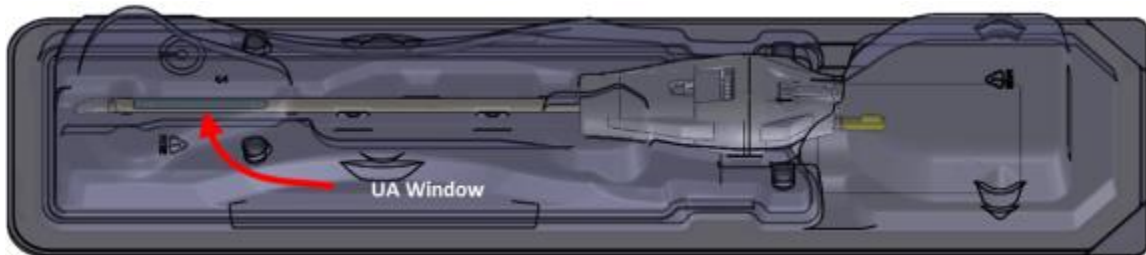

Figure 10: Examine the UA window for air bubbles
- d. Look through the package and carefully inspect the UA window for bubbles (Figure 10). There should be **no** bubbles of **any** size. If you see bubbles, gently tap the package-end close to the UA window against the work surface to dislodge them. If you still see bubbles, repeat the procedure, starting from step “a”.